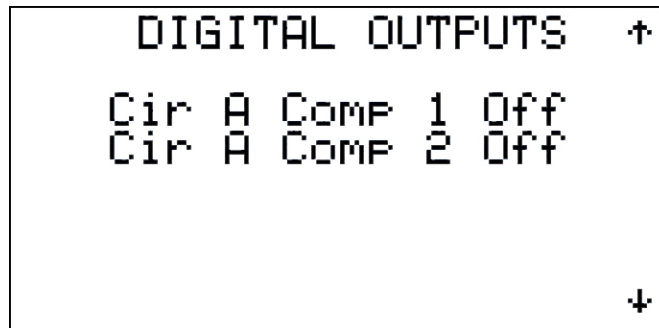

Figure 95
2.3.3.3.3 Digital Outputs (Binary) (Figures 95 - 97)